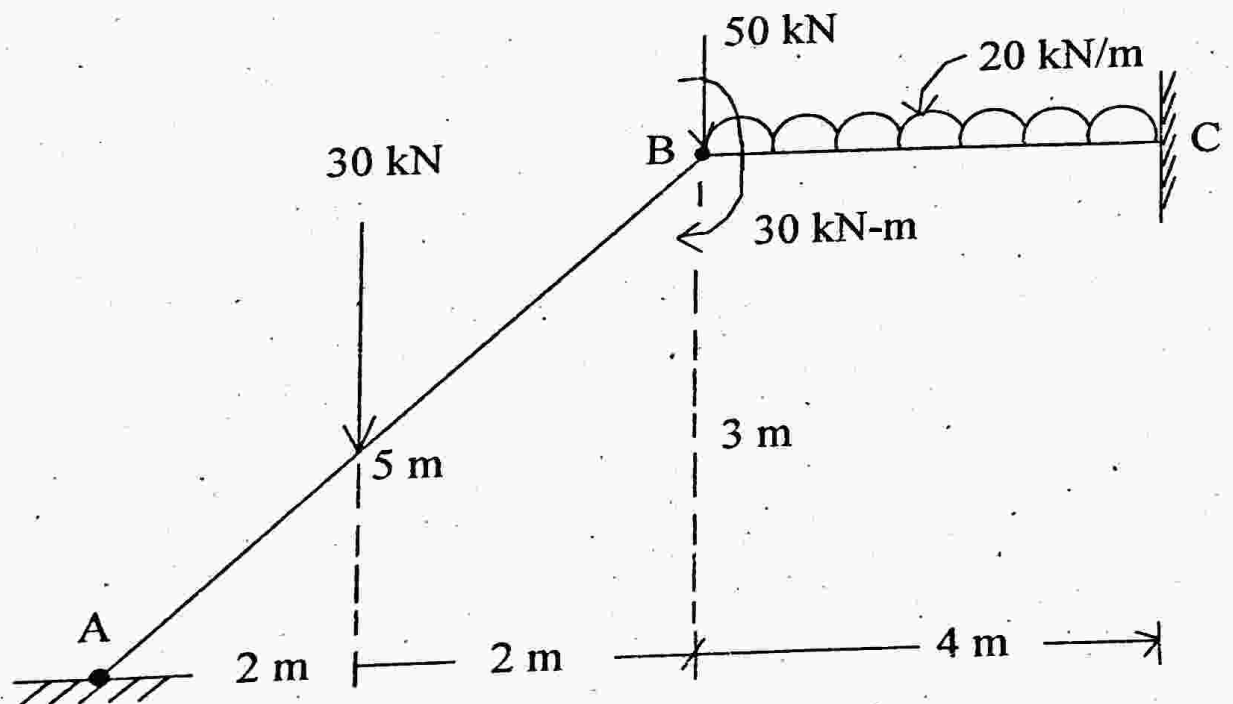

Fig. 9
9. Analyse the plane frame in Fig. 9 by Stiffness method. Draw B.M.D.  $E = 25.5 \times 10^6$  kN/m2, size of member = 30 cm  $\times$  50 cm. Neglecting axial definition. 14